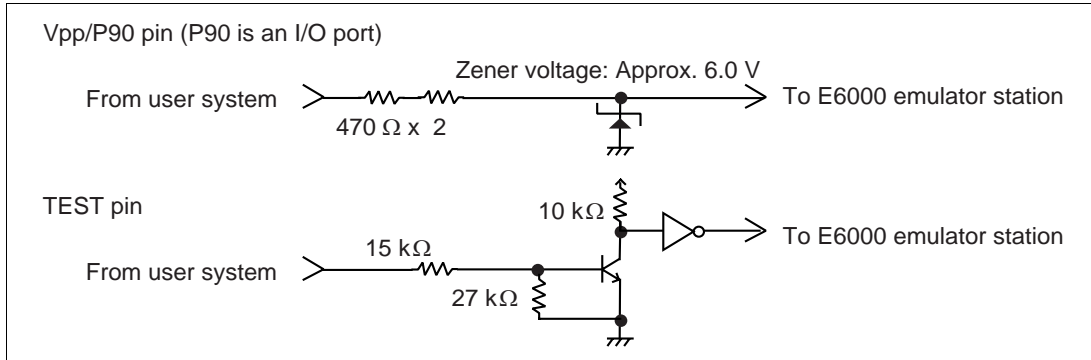

Figure 10 Vpp/P90 and TEST Pin Protection Circuits
- The flash memory functions of the H8/3644 series are not supported by the emulator. Therefore, do not apply 12 V to Vpp/P90 and TEST pins. If 12 V is applied, the emulator will detect it as the test mode. The Vpp/P90 and TEST pins have circuits for protection against 12-v application, as shown in figure 10.